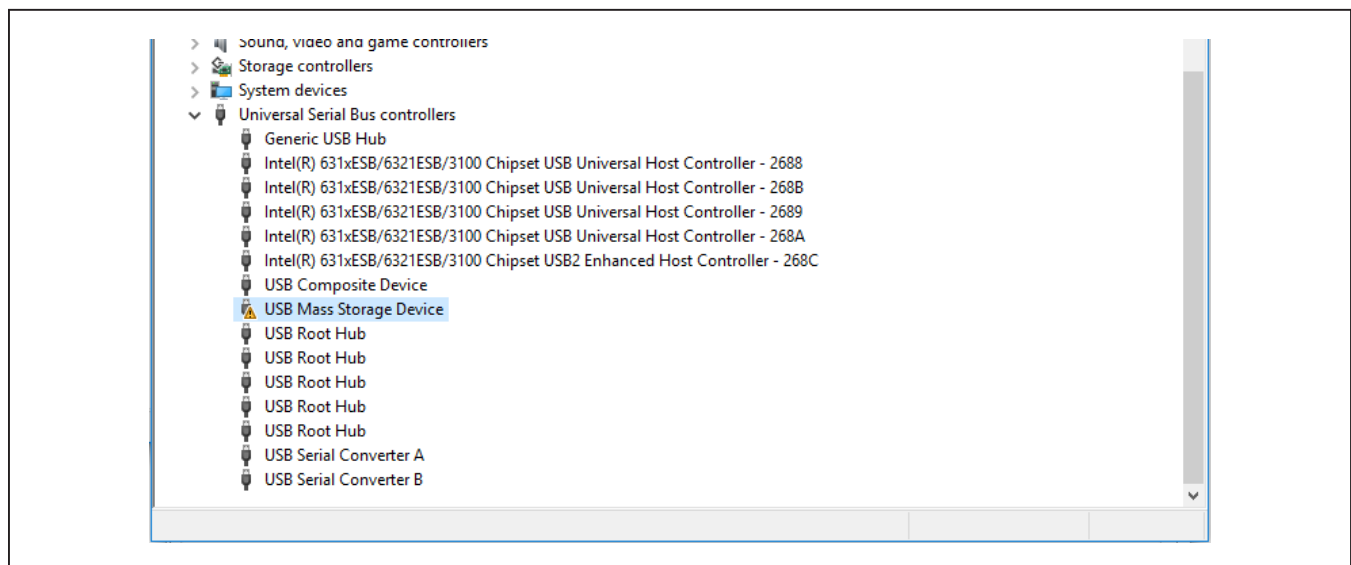

Figure 6. Device Manager Window
After completing the FPGA configuration, the PC will establish a connection to the new USB2.0 port on the FPGA. It should appear as a USB Mass Storage Device in Device Manager (Figure 6).
- c. Verify that the lower-left corner of the window states “FPGA Programmed”; this indicates the GUI is connected to the MAX5855 EV kit through the FPGA (Figure 6)
- d. Verify lower-right corner of the app states “FPGA: USB2 Connected, JTAG Connected” indicating these specific port connections have been established (Figure 6). The USB2 should not indicate a connection until the FPGA has been programmed.